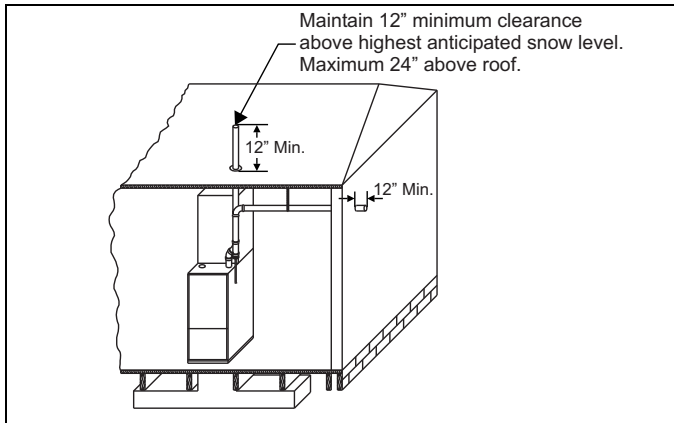
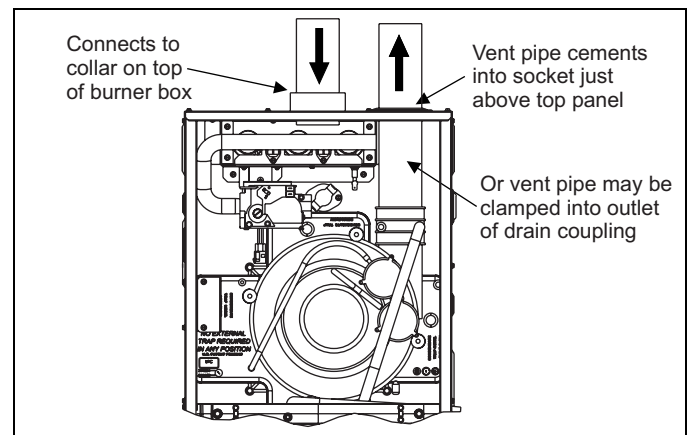

FIGURE 28: Termination Configuration - 1 Pipe
FIGURE 34: Direct Vent Air Intake Connection and Vent Connection
The combustion air side of the single pipe configuration shown in Figure 28 is referred to in these instructions as ambient combustion air supply. Follow the instructions for ambient combustion air installations, paying particular attention to the section on air source from inside the building. The vent for a single pipe system must be installed as specified in the venting section of these instructions with the vent terminating as shown in Figure 28. Each furnace must have a separate vent pipe. Under NO circumstances can the two vent pipes be tied together.
2. **AMBIENT COMBUSTION AIR:** Combustion air is supplied from the area surrounding the furnace through openings in the furnace casing. The combustion air and the vent pipes are not terminated in the same atmospheric zone. Refer to Figure 28 for vent terminations. Refer to "Ambient Combustion Air Supply" for proper installation. Refer to Figure 34.